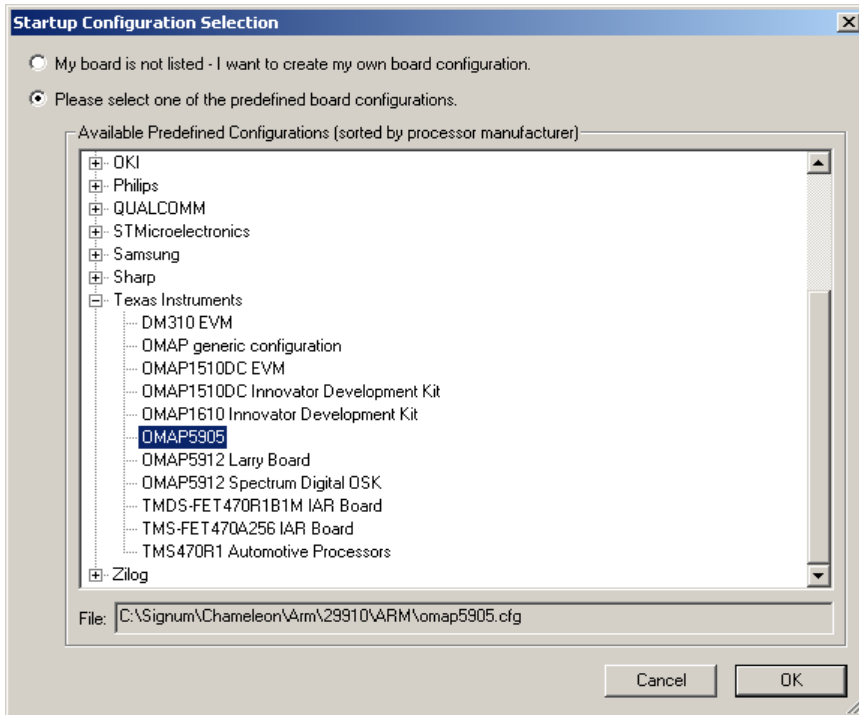

FIGURE 43
2. Next, in the Startup Configuration Selection window under Texas Instruments select the OMAP5905 and click **OK** (Figure 43).